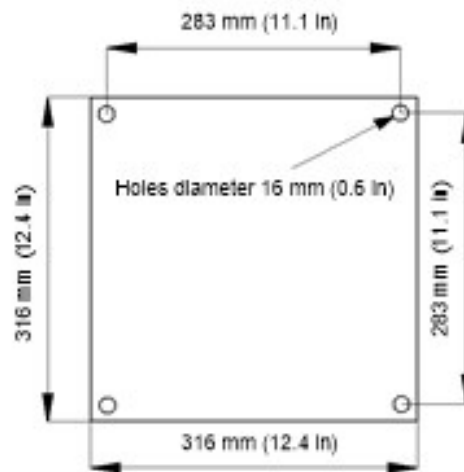

FIGURE 4-1. Mounting base footprint
Mount the SkyVUE PRO by bolting to a firm, level foundation. When bolting down, ensure the SkyVUE PRO can tilt in all desired directions. FIGURE 4-1 (p. 16) shows the mounting footprint. If a suitable surface does not already exist, construct a concrete foundation, at least 600 mm (23.6 in) square and 600 mm (23.6 in) deep, by using the following procedure:
1. Drill four 12 mm (0.47 in) diameter holes using the mount base as a template (see FIGURE 4-1 (p. 16)) to a depth of 77 mm (3.03 in).